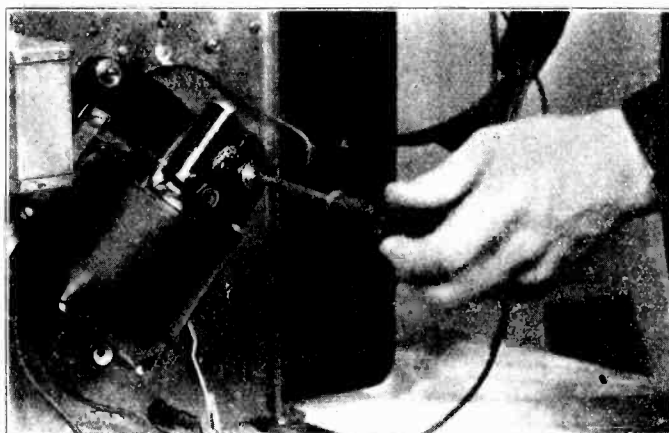

Figure 9 — Adjusting Turntable Spindle Height
- (a) *Improper Turntable Spindle Height*—The height of the turntable spindle nose should be  $\frac{3}{32}$ " above the inside bottom surface of the record magazine. Adjustment of this height made by means of the screw at the bottom of the motor. (See Figure 9.)
- (b) *Turntable Spindle Shaft Too Low*—This condition will cause binding between the pawl carrier and the clutch wheel. Raise the spindle as shown in Figure 9.